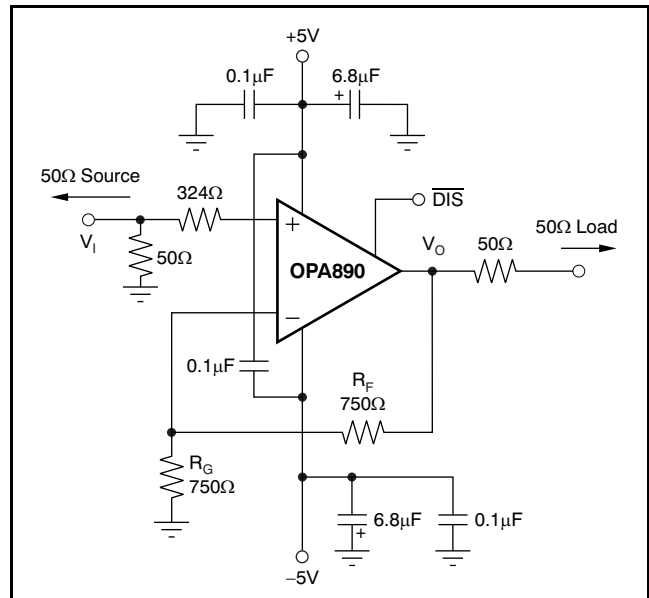
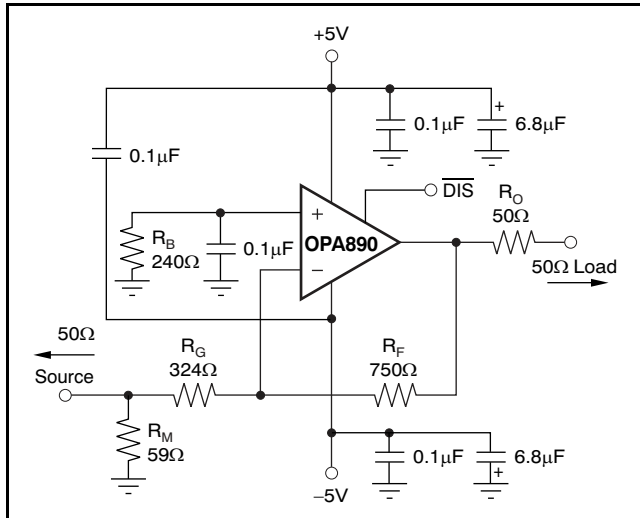

Figure 46. DC-Coupled, G = +2, Bipolar Supply, Specification and Test Circuit
Figure 51. Gain of $-2V/V$ Example Circuit
Figure 46 shows the dc-coupled, gain of +2, dual power-supply circuit configuration used as the basis of the ±5V Electrical Characteristics and Typical Characteristics. For test purposes, the input impedance is set to 50Ω with a resistor to ground and the output impedance is set to 50Ω with a series output resistor. Voltage swings reported in the Typical Characteristics are taken directly at the input and output pins, while output powers (dBm) are at the matched 50Ω load. For the circuit of Figure 46, the total effective load will be 100Ω – 1.5kΩ. The disable control line is typically left open to ensure normal amplifier operation. Two optional components are included in Figure 46. An additional resistor (324Ω) is included in series with the noninverting input. Combined with the 25Ω dc source resistance looking back towards the signal generator, this configuration gives an input bias current cancelling resistance that matches the 375Ω source resistance seen at the inverting input (see the DC Accuracy and Offset Control section). In addition to the usual power-supply decoupling capacitors to ground, a 0.1μF capacitor is included between the two power-supply pins. In practical printed circuit board (PCB) layouts, this optional-added capacitor typically improves the 2nd-harmonic distortion performance by 3dB to 6dB.
Voltage-feedback op amps exhibit decreasing closed-loop bandwidth as the signal gain is increased. In theory, this relationship is described by the gain bandwidth product (GBP) shown in the *Electrical Characteristics*. Ideally, dividing GBP by the noninverting signal gain (also called the noise gain, or NG) predicts the closed-loop bandwidth. In practice, this relationship only holds true when the phase margin approaches 90° , as it does in high-gain configurations. At low gains (increased feedback factors), most amplifiers exhibit a more complex response with lower phase margin. The OPA890 is compensated to give a slightly peaked response in a noninverting gain of $2V/V$ (see Figure 46). This compensation results in a typical gain of $+2V/V$ bandwidth of $115MHz$, far exceeding that predicted by dividing the $130MHz$ GBP by 2. Increasing the gain causes the phase margin to approach 90° and
The OPA890 is a general-purpose, wideband voltage-feedback op amp; therefore, all of the familiar op amp application circuits are available to the designer. Inverting operation is one of the more common requirements and offers several performance benefits. Figure 51 shows a typical inverting configuration where the I/O impedances and signal gain from Figure 46 are retained in an inverting circuit configuration.
In the inverting configuration, three key design considerations must be noted. First, the gain resistor (R_G) becomes part of the signal channel input impedance. If input impedance matching is desired (which is beneficial whenever the signal is coupled through a cable, twisted-pair, long PCB trace, or other transmission line conductor), R_G may be set equal to the required termination value and R_F adjusted to give the desired gain. This approach is the simplest, and results in optimum bandwidth and noise performance. However, at low inverting gains, the resultant feedback resistor value can present a significant load to the amplifier output. For an inverting gain of $-2V/V$, setting R_G to 50Ω for input matching eliminates the need for R_M but requires a 100Ω feedback resistor. This option has the interesting advantage that the noise gain becomes equal to $2V/V$ for a 50Ω source impedance—the same as the noninverting circuits considered in the previous section. The amplifier output, however, now sees the 100Ω feedback resistor in parallel with the external load. In general, the feedback resistor should be limited to a range of 200Ω to $1.5k\Omega$. In this case, it is preferable to increase both the R_F and R_G values, as shown in Figure 51, and then achieve the input matching impedance with a third resistor (R_M) to ground. The total input impedance becomes the parallel combination of R_G and R_M .
The second major consideration, touched on in the previous paragraph, is that the signal source impedance becomes part of the noise gain equation and influences the bandwidth. For the example in Figure 51, the R_M value combines in parallel with the external 50Ω source impedance, yielding an effective driving impedance of $50\Omega \parallel 59\Omega = 27\Omega$. This impedance is added in series with R_G for calculating the noise gain (NG). The resulting NG is $3.14V/V$ for Figure 51, as opposed to only 2 if R_M could be eliminated as discussed previously. The bandwidth is therefore slightly lower for the gain of $-2V/V$ circuit of Figure 51 than for the gain of $+2V/V$ circuit of Figure 46.
The third important consideration in inverting amplifier design is setting the bias current cancellation resistor on the noninverting input (R_B). If this resistor is set equal to the total dc resistance looking out of the inverting node, the output dc error (because of the input bias currents) is reduced to $(\text{Input Offset Current}) \times R_F$. If the 50Ω source impedance is dc-coupled in Figure 51, the total resistance to ground on the inverting input is 351Ω . Combining this resistance in parallel with the feedback resistor gives the value of $R_B = 240\Omega$ used in this example. To reduce the additional high-frequency noise introduced by this resistor, it is sometimes bypassed with a capacitor. As long as $R_B < 350\Omega$, a capacitor is not required because the total noise contribution of all other terms is less than that of the op amp input noise voltage. As a minimum, the OPA890 requires an R_B value of 50Ω to damp out parasitic-induced peaking—a direct short to ground on the noninverting input runs the risk of a very high-frequency instability in the input stage.
Evaluating these two equations for the OPA890 circuit and component values (see Figure 46) gives a total output spot noise voltage of 17.4nV/√Hz and a total equivalent input spot noise voltage of 8.7nV/√Hz. This total includes the noise added by the bias current cancellation resistor (175Ω) on the noninverting input. This total input-referred spot noise voltage is only slightly higher than the 8nV/√Hz specification for the op amp voltage noise alone. This result will be the case, as long as the impedances appearing at each op amp input are limited to the previously recommend maximum value of 350Ω. Keeping both (R_F || R_G) and the noninverting input source impedance less than 350Ω satisfies both noise and frequency response flatness considerations. Because the resistor-induced noise is relatively negligible, additional capacitive decoupling across the bias current cancellation resistor (R_B) for the inverting op amp configuration of Figure 51 is not required.
The balanced input stage of a wideband voltage-feedback op amp allows good output dc accuracy in a wide variety of applications. The power-supply current trim for the OPA890 gives even tighter control than comparable amplifiers. Although the high-speed input stage does require relatively high input bias current (+25°C worst case, 1.6μA at each input terminal), the close matching between them may be used to reduce the output dc error caused by this current. The total output offset voltage may be considerably reduced by matching the dc source resistances appearing at the two inputs. This matching reduces the output dc error resulting from the input bias currents to the offset current times the feedback resistor. Evaluating the configuration of Figure 46, and using worst-case +25°C input offset voltage and current specifications, gives a worst-case output offset voltage equal to: